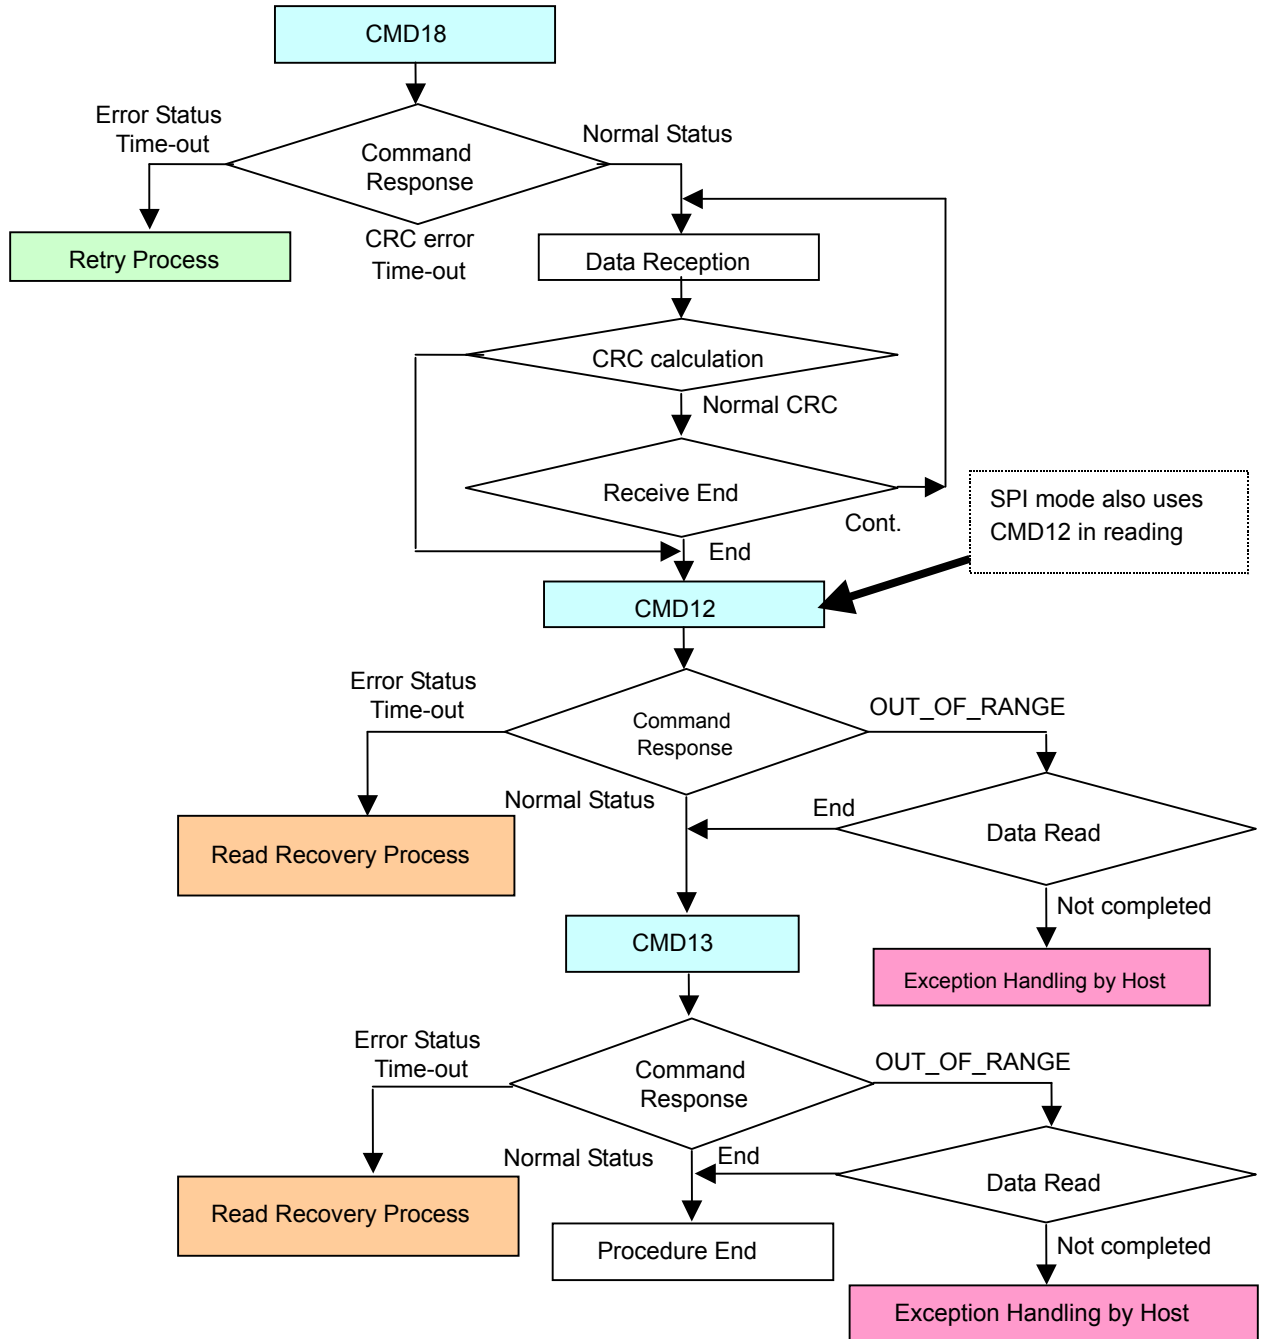

Figure 13 Standard flow including CMD18 error recovery process
- (1) Attempting to read the final block may cause OUT_OF_RANGE. In such case, ignore the OUT_OF_RANGE.
- (2) If CARD_ECC_FAILED occurs, retry reading.
- (3) Retry process shall follow Figure 13.